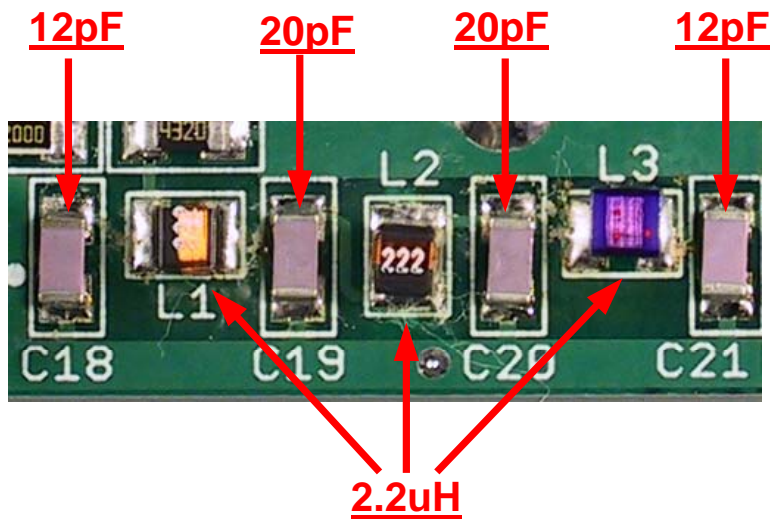

Figure 17. Locations for C18, C19, C20, C21, L1, L2, L3
- Remove the strip of 12pF capacitors from the top compartment. The film covering these parts is **GREEN**. Refer to **Figure 17**. Install them at:
- Remove the strip of 20pF capacitors from the top compartment. The film covering this part is **VIOLET**. Refer to **Figure 17**. Install them at:
- Remove the strip of 2.2uH inductors from the active components compartment. These can be marked in several ways: 2R2, 222 or an arrangement of 3 **RED** dots. The inductors are wound on a ceramic core and only have metallization on the bottom side. The plastic top cover is fragile when heated. Don't press on the inductors with a sharp object! Instead, grasp it by its sides. When installing them, place the inductor over the solder-coated pad and heat the pad until the inductor sinks into the molten solder. When the joint cools, heat the other pad and melt solder onto the pad, not the part. Refer to **Figure 17** for placement. Install the inductors at: